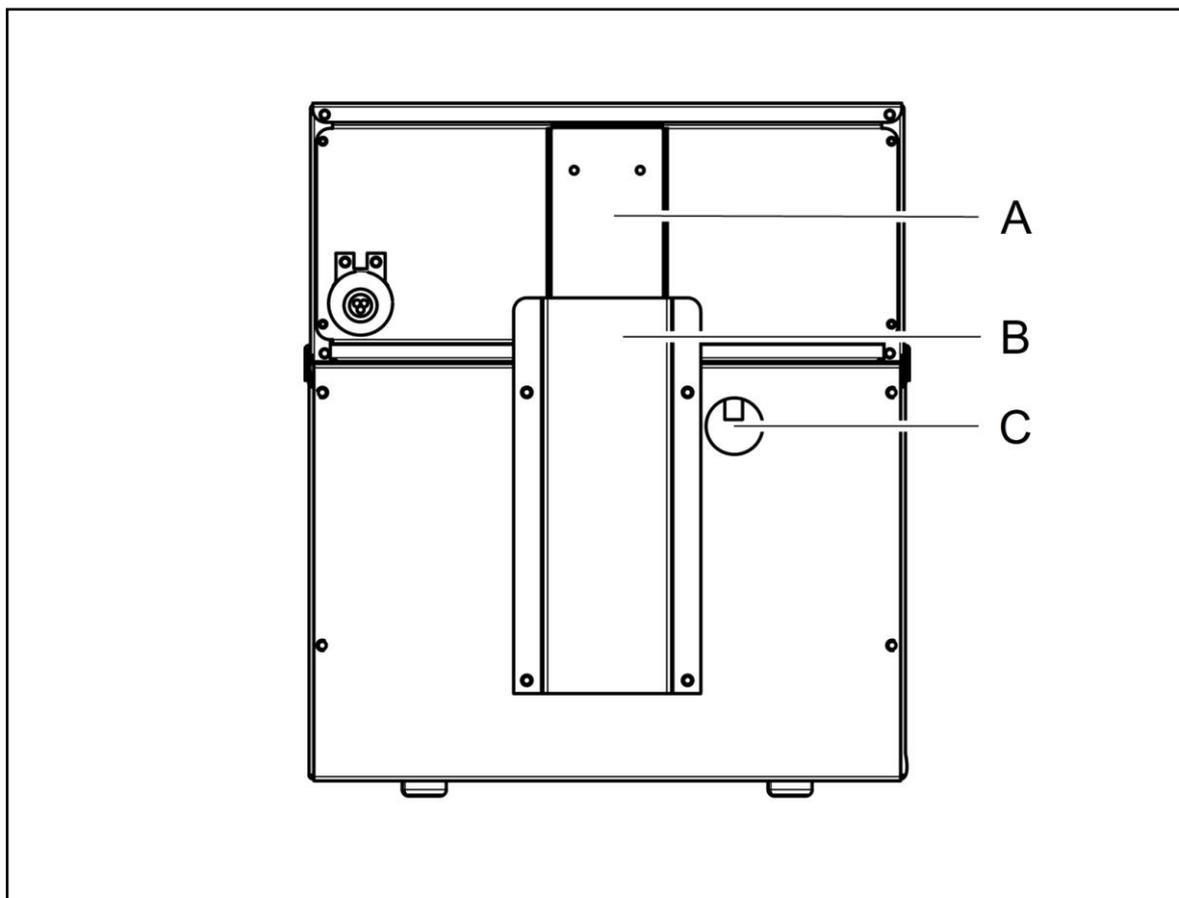

Fig 2
Before first use, clean the tank. Remove the batter plate, then lift the control head out by sliding the rear guide Fig 2 (A) up and out of the channel (B). Using warm water and mild detergent clean the tank and dry thoroughly.
This appliance is fitted with a safety thermostat to cut off the power in the event of a fault. If the green neon illuminates but the element does not heat, re-set the safety thermostat by pushing up the red button located through the access hole in the back panel Fig 2 (C). The fryer must be cool before the safety thermostat can be re-set.